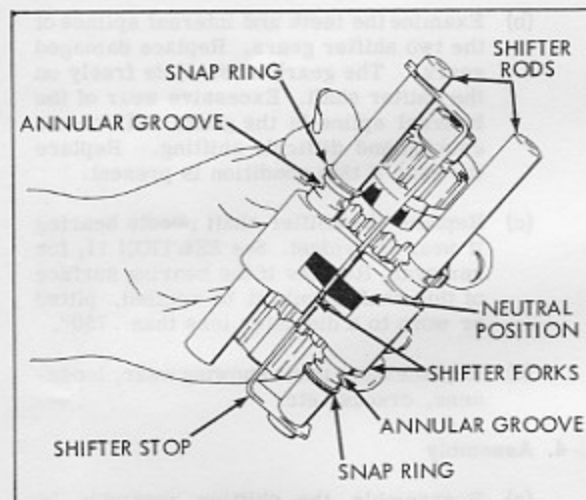

Figure 10-11 Final Assembly
(4) When the shifter forks are properly assembled to the shifter rods and positioned in neutral, the ends of the notches in the shifter forks are in alignment. (Figure 10-11)